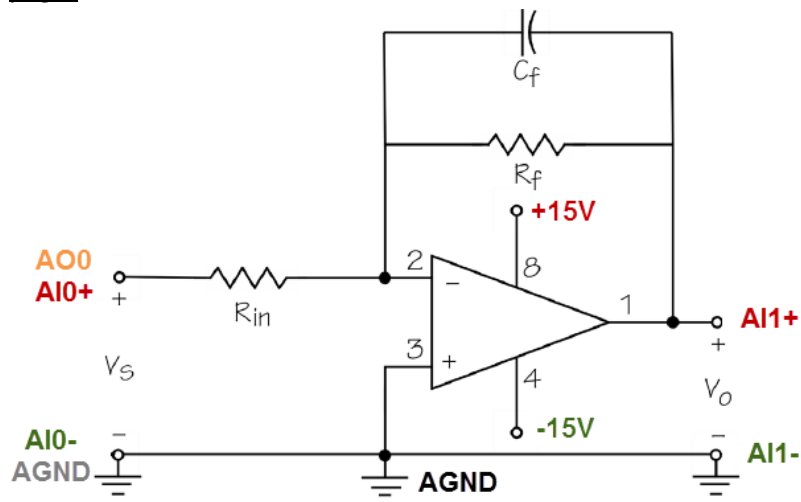

Fig. 1—Low-pass filter
1. The low-pass filter circuit (Figure 1) has a pass band gain of $-R_f/R_{in}$ and a break frequency of $(R_f C_f)^{-1}$ radians per second. Review the available circuit component values listed below, and choose values to achieve a pass band gain of 15 ± 2 dB and a break frequency of 1.0 ± 0.1 kHz. Resistance values in op-amp circuits need to be at least $1 \text{ k}\Omega$ and should not be larger than about $100 \text{ k}\Omega$. Show your design calculations on the hand-in page^A.
5. Connect the NI myDAQ according to the schematic diagram of Figure 1.